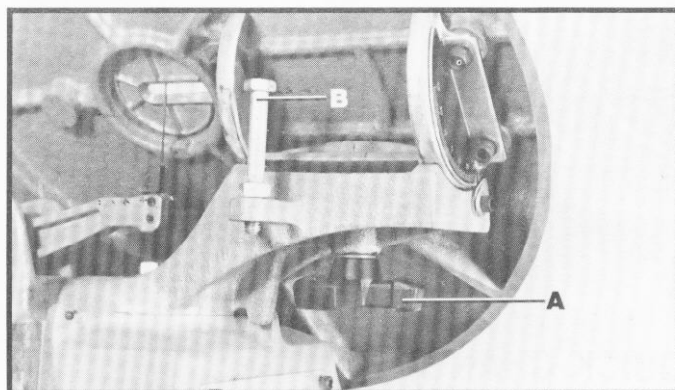

Fig. 27
The table on your scroll saw can be tilted 45 degrees to the right and 30 degrees to the left. To tilt the table to the right, loosen lock knob (A) Fig. 27, and move the table to the desired angle of tilt. NOTE: To tilt the table to the left, it is necessary to remove table stop (B). Tighten lock knob (A) when table is at desired angle of tilt.